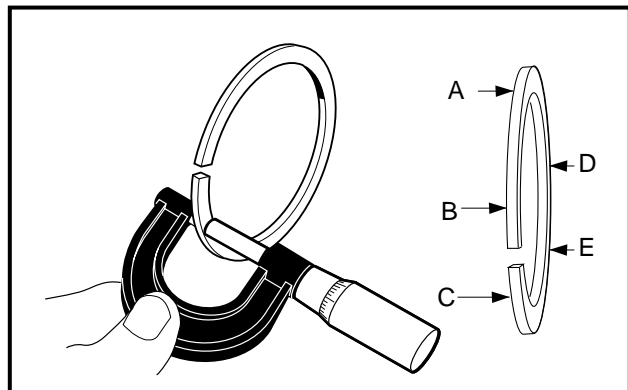

Figure 13-54 Measure Piston Ring Thickness
4. Using a micrometer, measure the thickness of both piston rings at several points around the rings (**Figure 13-54, Page 13-28**).